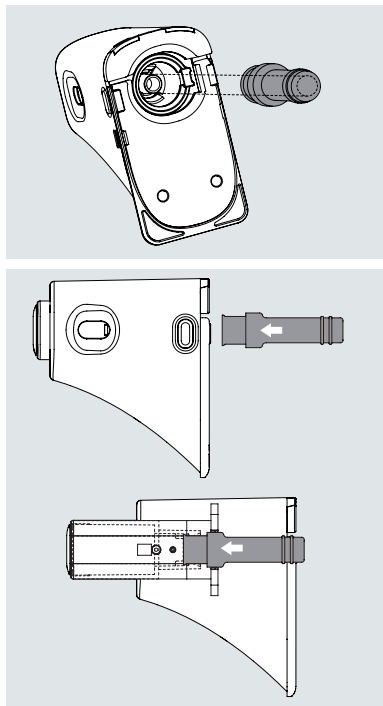

Figure 15
2. Open the cannula pack as indicated on the packaging. Push the cannula assembly into the cannula inserter as shown in Figure 15 until the cannula assembly is in the cocked position and you hear two “click” sounds. You should see that the cannula assembly is connected firmly to the cannula inserter and the inserter is held firmly in the cocked position.